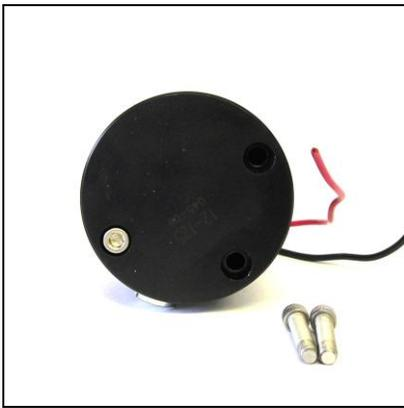

Figure 1
2. Remove the three 3/16 Allen head screws from the bottom of the pump (**Figure 1**).